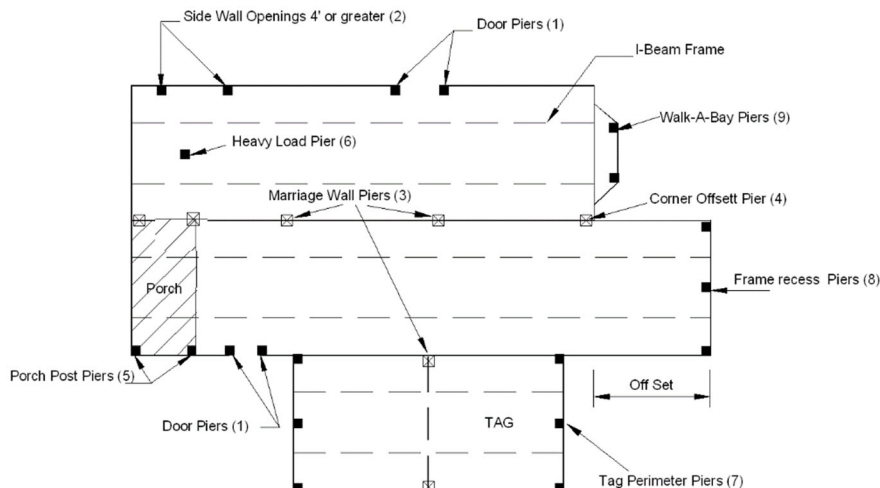

Figure 8. Typical point-load support locations
- (2) Other exterior wall openings four feet and greater at both sides of each opening (including multiple windows that total four feet wide or more without intermediate supports, even if individual windows are less than four feet).
- (3) Marriage line openings four feet or greater at both sides of each opening (when home has perimeter blocking and marriage line openings are greater than 10 feet, intermediate supports must be placed at maximum 10 feet on center).
- (4) Marriage line pier at corner of offset.
- (5) Load-bearing porch posts.
- (6) Under heavy (400 lbs or greater) items, such as heavy furniture, waterbeds, fireplaces and large fish tanks.
- (7) Tags require 3 perimeter piers under each end as shown in **Figure 8**.
- (8) Perimeter piers required under front and rear of homes with front cross member and rear frame recessed over 9 inches.
- (9) Pier each end of walk-a-bay over 16 inches out from home.
- Offset shall be tied down and piers placed as a single section for that portion of the home. Also, pier shall be placed at the inside corner where floors join (ref. point 4 in **Figure 8**).
Mark the required point load support locations on the sketch. Supports are not required where the manufacturer has reinforced the floor (such as with additional outriggers or floor joists) and so noted in the documentation provided with the home. **Figure 8** and **Figure 9** identify typical point load support locations.